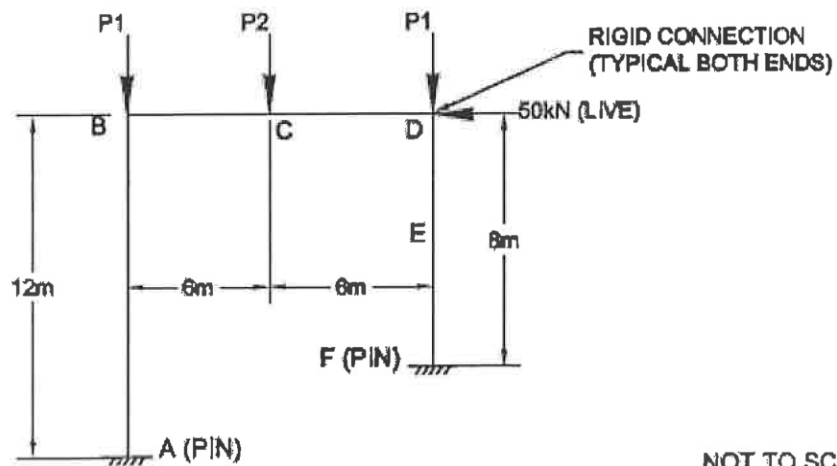

FIGURE 2
- A2. Assuming the column and beam sections for the frame shown in Figure 2 are the same determine the most appropriate wide flange section to be used.
- B2. Referring to Figure 2; if the deck is rigid design the column section C-D using a square reinforced concrete cross-section with a concrete strength of 35MPa.
- B3. For the frame in Figure 2 design a rectangular footing with a 3 to 1 ratio for column AB, to resist the imposed forces. Assume an allowable soil bearing capacity of 150kPa and an ultimate bearing capacity of 225kPa. Detail the connection of the column to the pier assuming a square cross-section. The footing shall be made out of 25MPa concrete.